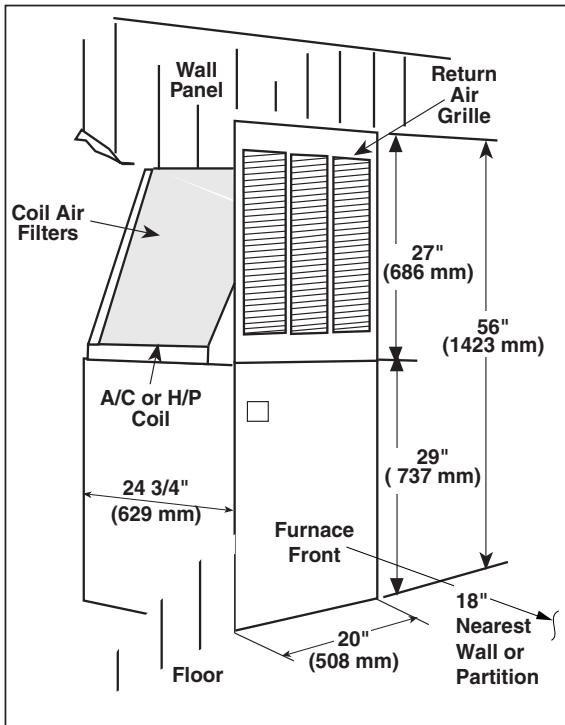

Figure 13. Typical Alcove Installation
1. Cut alcove rough openings to minimum dimensions shown in Figure 13.